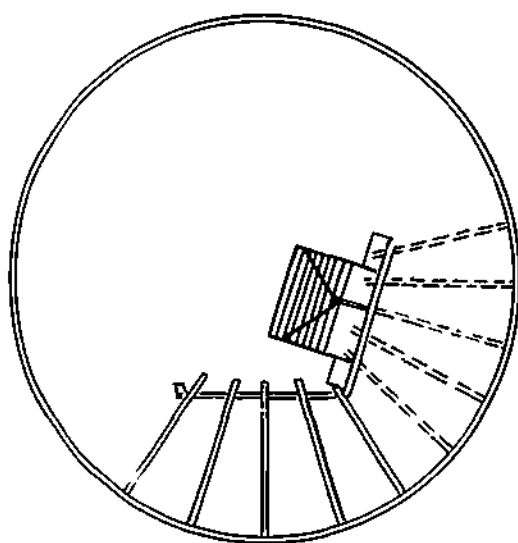

Figure 12-27. Succeeding Circle Beam Erection
- Step 5. Move the buggy to the next location, centre it as on the previous location. Raise the column and lash to the wing. Raise the circle beam and bolt it to the columns and together. Erect the rafters and bolt to the circle beam and shell lugs (Figure 12-27).